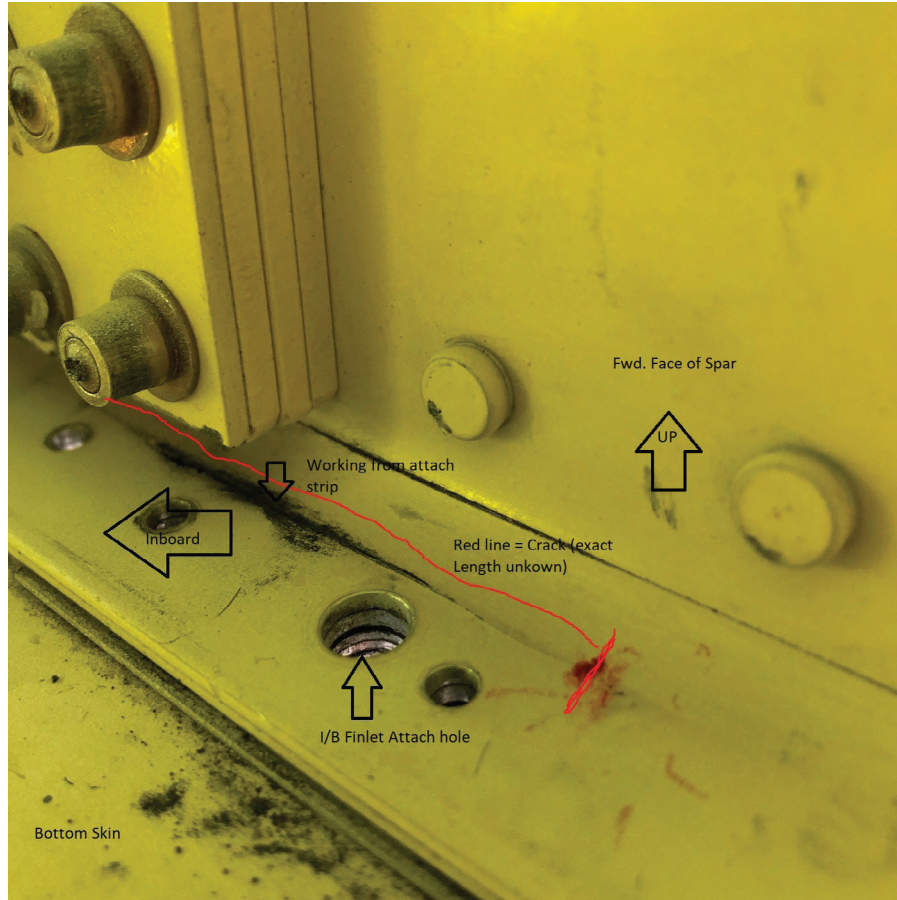

Figure 6
- b. A crack near the forward, inboard mount bolt, typically within the radius of the spar, and perhaps centered at the corner of the strut brace shim plates. See Figure 6.